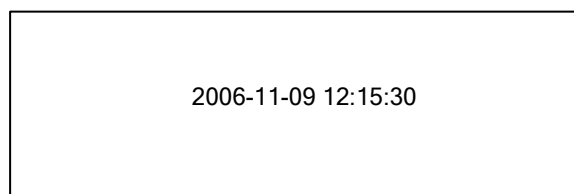

Fig. 2-4 Time setting
Press the **number key 2** in the system to access the following interface as shown in Fig. 2-4.